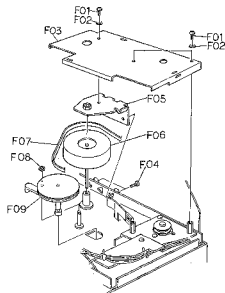

Fig. 3.11
Refer to Fig. 3.11. Remove mechanism ass'y referring to item 3.16. Remove F01 through F05, F06 (flywheel ass'y) and F07.
Refer to Fig. 3.11. Remove flywheel ass'y referring to item 3.16. Remove F08 and F09 (idler pulley ass'y).